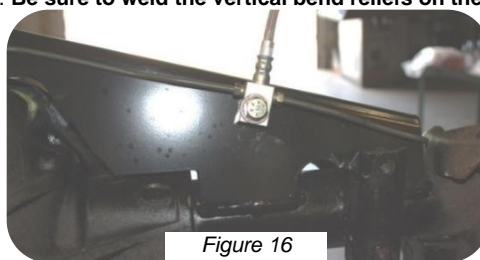

Figure 16
64. Mount rear brake hose to the front side of the truss (see figure 16).
65. Run new hard lines from brake T-fitting to wheel cylinders (see figure 16).